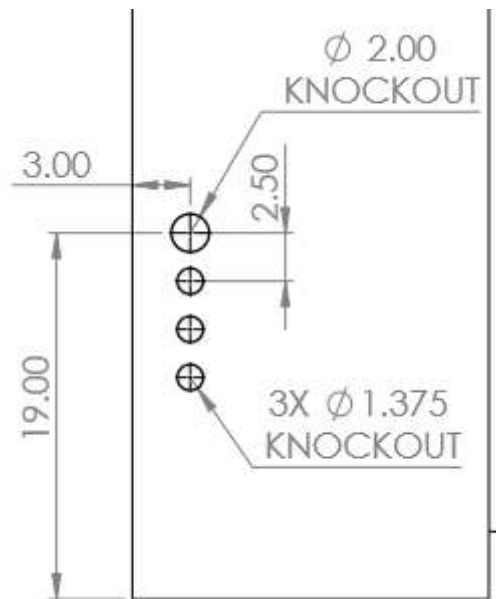

Figure 16.0 - AccESS Cabinet Knockouts (Sides)
2. The AccESS Sol-Ark is equipped with multiple knockouts (see Figure 16.0 on the following page). Utilize any one of these to feed the PV wiring from the PV disconnect into the AccESS enclosure.